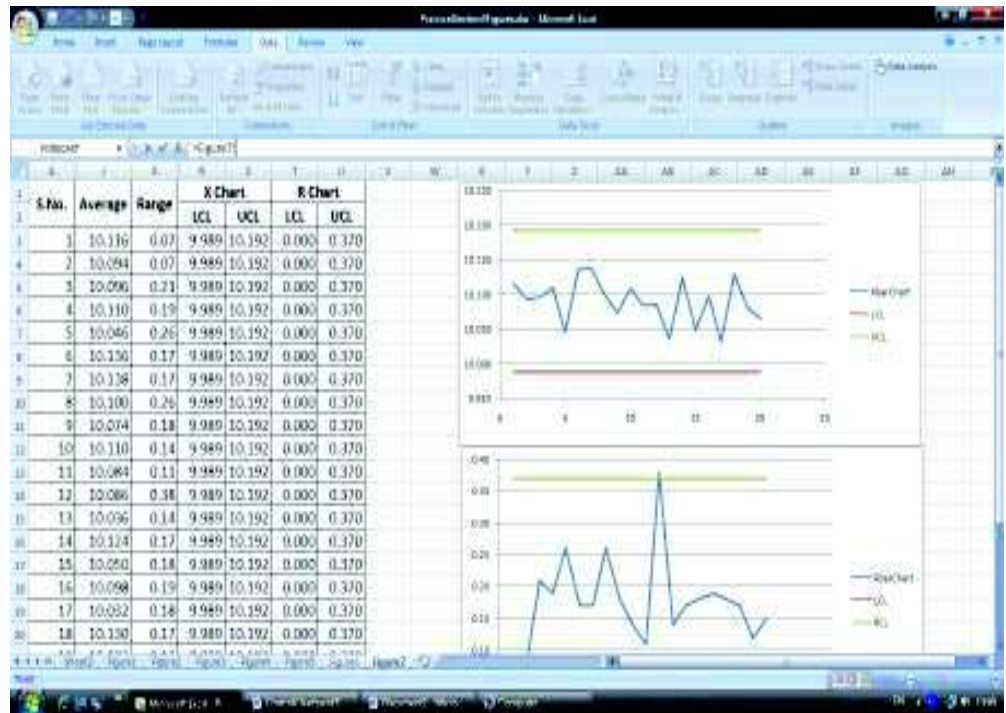

Figure 7: Control Charts (x-chart and R-chart) for the refill length data
- on the basis of these calculated values, you can create data as shown in Figure 7.
- You may use Scatter Plot to draw the charts as shown in Figure 7.
Please note that in Figure 7, that the 12th point on the R-chart crosses the UCL line, which is indicative of “process out of control” situation with respect to variability (as this problem has been detected in R-chart). Consequently, we conclude that during this time period the process may not be stable.